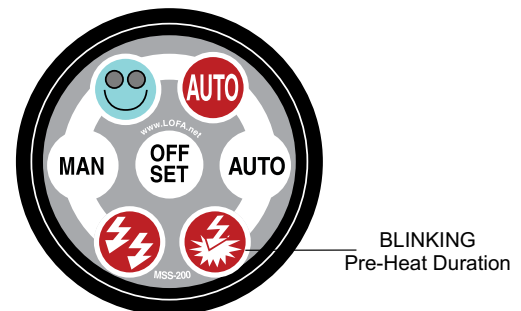

Figure 34. Pre-Heat Duration (Blinking)
2. Releasing the **OFF/SET** button will bring you to **parameter 0, preheat duration** indicated by the flashing of LED 1 (Figure 34).